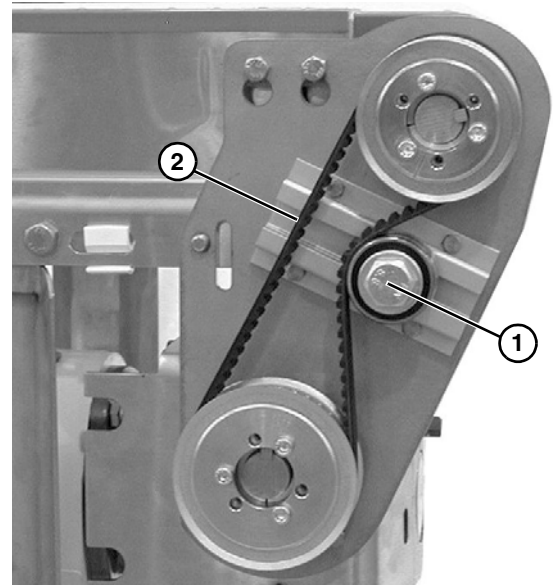

Figure 13
2. Loosen tensioner (**Figure 13, item 1**).
3. Tension timing belt to obtain 1/8" (3 mm) deflection for 6 lb (3 Kg) of force at timing belt mid-point (**Figure 13, item 2**). Tighten tensioner screw (**Figure 13, item 1**) to 110 in-lb (12 Nm).